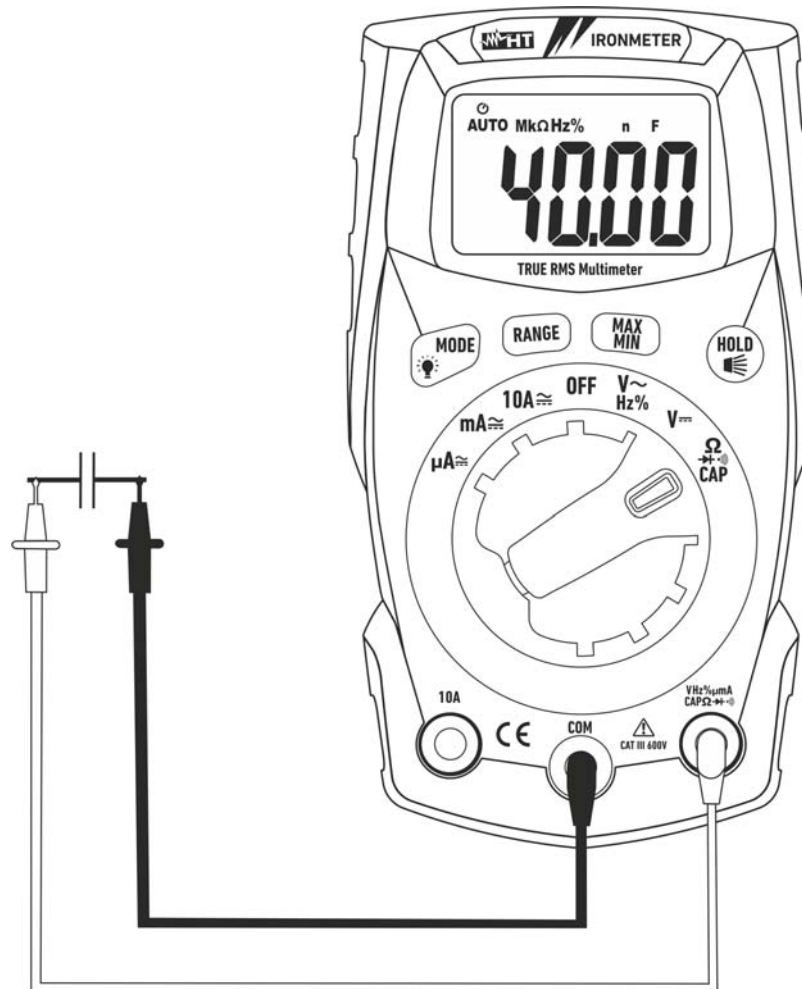

Fig. 7: Use of the instrument for capacitance measurement
4. Position the leads at the ends of the capacitor to be tested, respecting, if necessary, the positive (red cable) and negative (black cable) polarity (see Fig. 7). The display shows the value of capacitance